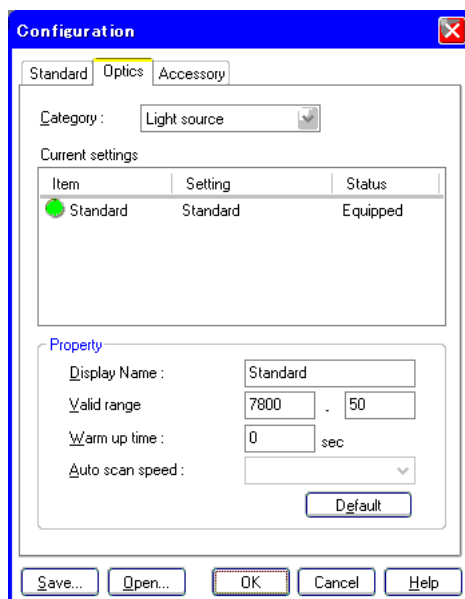

Fig.2.6 [Configuration (Optics-Light source)] dialog
- (5) Next, select the [Optics] tab (Figs.2.6 and 2.7). Each item should be set so as to optimize the registered FT-IR. Except for a multi-configuration FT-IR, you can set only two items: the source and detector names. Tables 2.1 and 2.2 show the standard settings for the source and the detector.